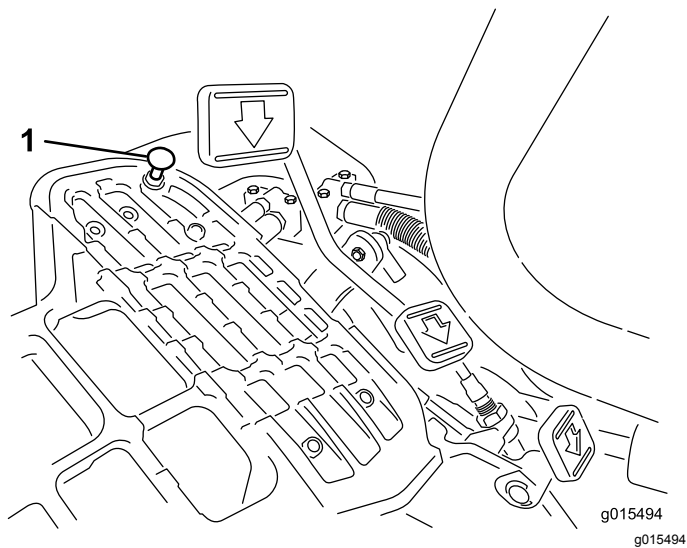

Figure 41
To obtain the maximum-transport speed, put the functional control lever in the TRANSPORT position and press down on the traction pedal. If the pedal contacts the stop (Figure 41) before you feel tension on the cable, perform the following adjustment procedure:
1. Put the functional-control lever in the TRANSPORT position and loosen the locknut securing the pedal stop to the floor plate (Figure 41).